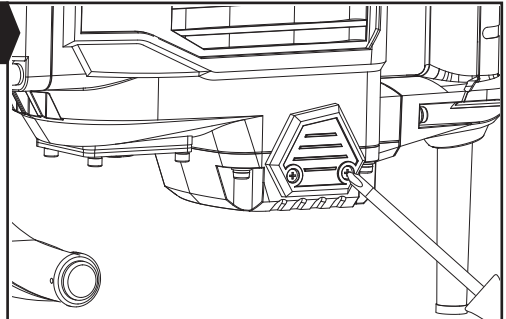

Fig. E1
5. CHANGE THE CARBON BRUSH (See Fig. E1, E2)
- 1) Unscrew the outer brush cover with a Phillips screwdriver (not provided). (See Fig. E1)